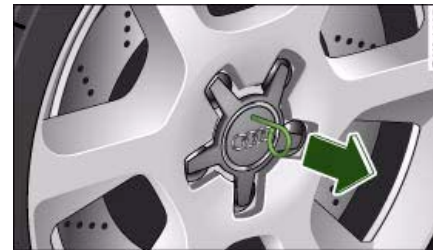

Fig. 271 Changing a wheel: Removing a hub cap
- Pull off the **hub cap** ⇒ *fig. 271*. ■
- Pull off the **hub cap** ⇒ *page 289*, fig. 271.
- Insert the adapter ② completely into the wheel bolt ①.
- Fit the box spanner as far as it will go over the adapter ②.